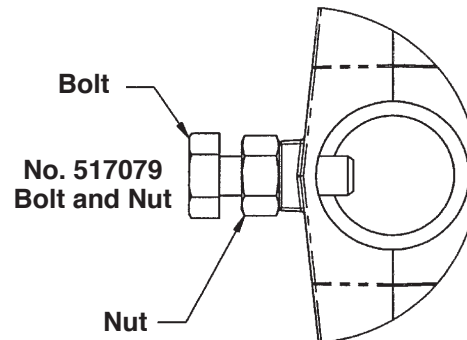

Figure 1
1. Loosen the bolt on the front of the handle socket. See Figure 1.